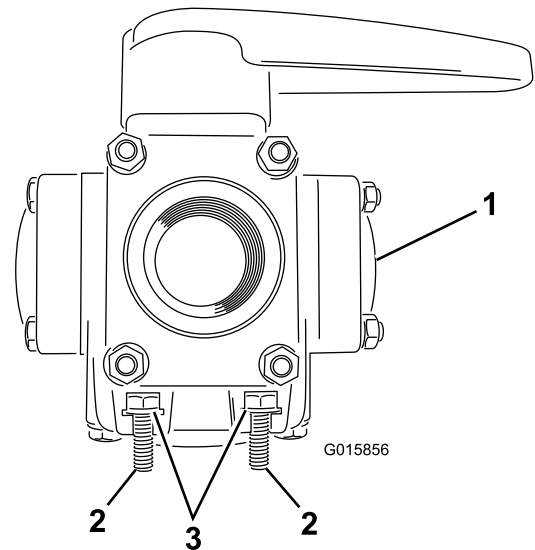

Figure 25
2. Insert 4 bolts (6 x 16 mm) and 4 washers (6 mm) into the slots of the 4-way valve (Figure 25).